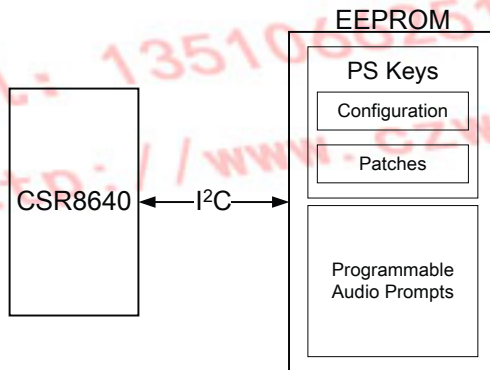

Figure 16.2: Programmable Audio Prompts in External I2C EEPROM
- An external EEPROM, in this implementation the prompts are stored in the same EEPROM as the PS Keys, see Figure 16.2. A larger EEPROM is necessary for programmable audio prompts. This implementation supports EEPROMs up to 512Kb. An EEPROM of 512Kb enables approximately 15 seconds of audio storage.